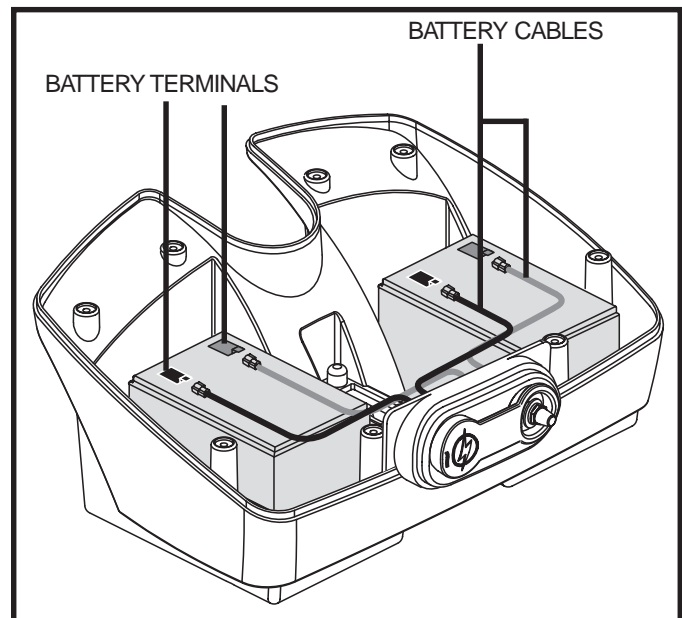

Figure 12. Battery Replacement
3. Remove the eight (8) screws from the perimeter of the battery pack.
5. Disconnect the black (-) and red (+) battery cables from the battery terminals. **See figure 12.**